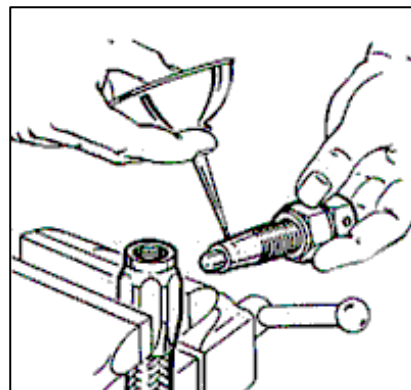

Figure 3.0
**Step 3:** Lubricate the internal diameter of the hose and the outside of the hose nipple, including the threads. Use a generous amount of glycerine (recommended) or alternatively silicone grease. See Figure 3.0